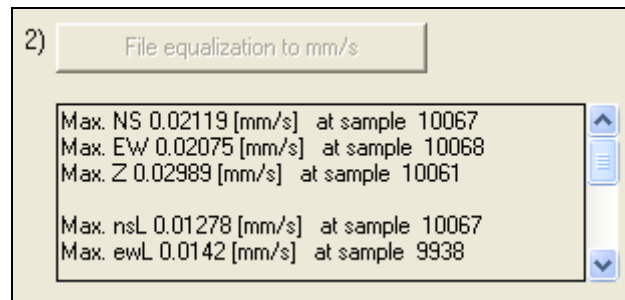

Figure 3. Peak particle velocity (or acceleration) for each component.
The list of the peak particle velocities (or accelerations) found on the recording for each component will appear on the text box below the *File Equalization* button (Figure 3).
- the threshold value (in velocity) above which time-epochs will be extracted and analysed (Figure 4, *Threshold [mm/s]*).  Please note that this value must be lower than the maximum peak particle velocity found on any channel and listed in Figure 3, otherwise no epoch will be extracted. The default threshold value is 0.5 mm/s,
MAXIMA STRING.TXT contains the maximum velocities found on the recordings for each channel, as described in Figure 3.